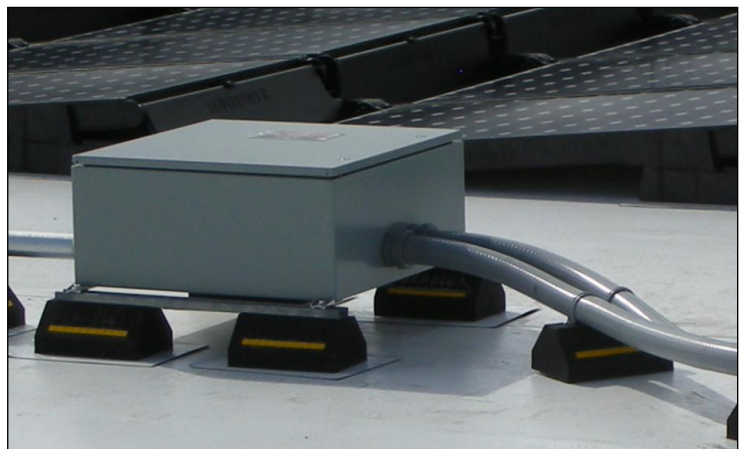

Fig. 84
1. Bend conduit as necessary to route between each conduit mount and its adjacent combiner box (Fig. 84, example only).